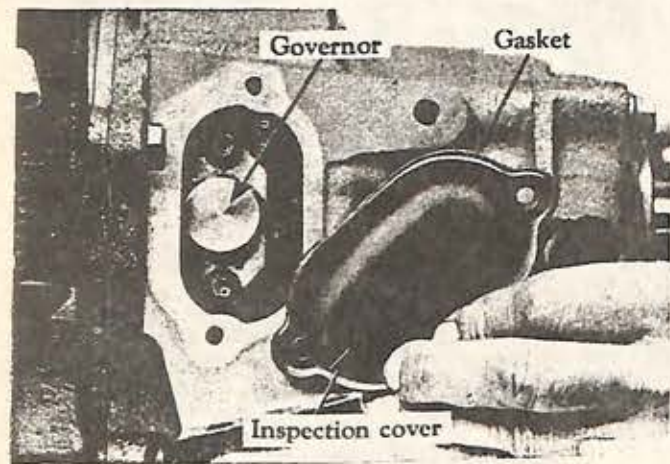

Fig. 38
1. Remove the governor inspection cover and gasket from the transmission extension housing (Fig. 38).